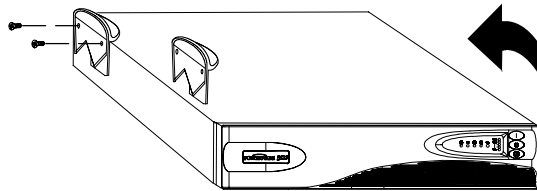

Figure 8. Installing UPS Pedestals with Two Cabinets
5. Place the UPS cabinet horizontally so that the left end of the unit is accessible (see Figure 8).